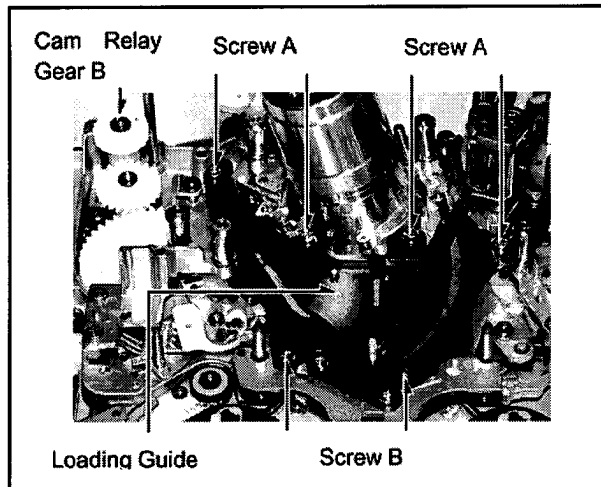
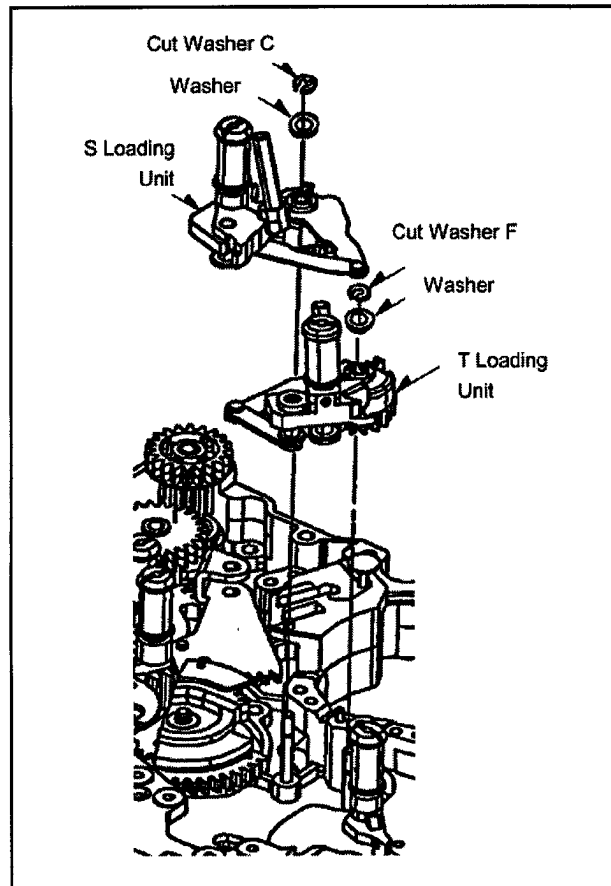

Fig.4-14-1
Fig.4-14-2
3. Turn the Cam Relay Gear (B) counterclockwise to place the unit in the loading complete condition. (Fig.4-14-1)
4. Unscrew the 4 screws A and 2 screws B, then the loading guide. (Fig.4-14-1)
5. Turn the Cam Relay Gear (B) clockwise to return the unit in the unloading complete condition.
6. Remove the Cut Washer C and a washer, and then the S Loading Unit. (Fig.4-14-2)
2. Remove the Cut Washer F and a Washer to remove the T Loading Unit. (Fig.4-14-2)